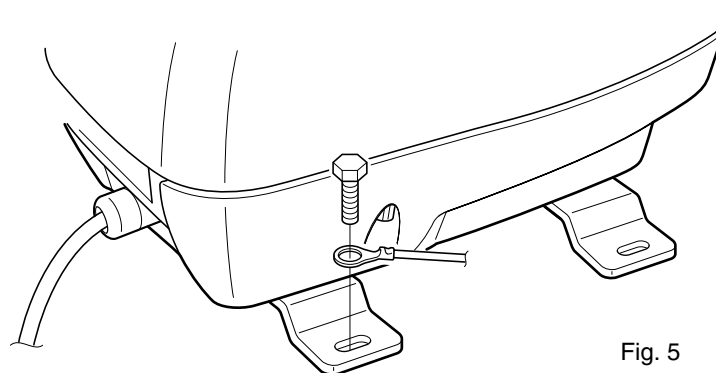

Fig. 5
- ② Apply lubricant specified below or an equivalent one to the motor bearing*3, if required.
- ③ Connect the grounding wire to the ground plate with the supplied terminal if required. (Fig. 5)